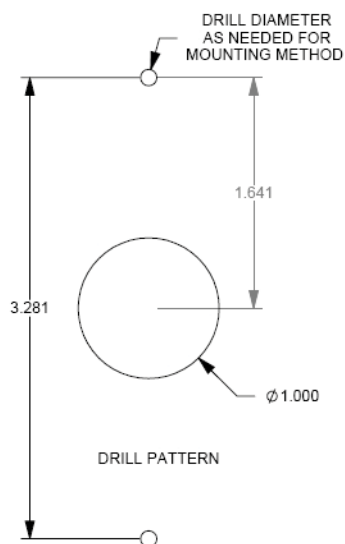

Figure 1-2 Mounting Drill Pattern
- Figure 1-2 Mounting Drill Pattern3